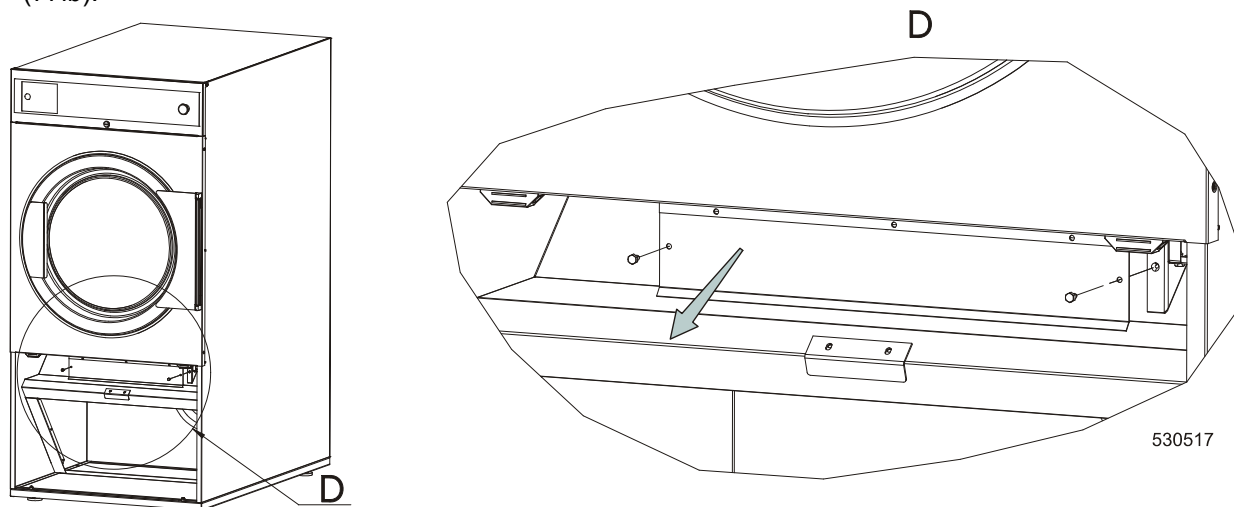

Bild. 9.4.
6. Remove the lint filter cover. Remove the cover below the drying drum, fig. 9.4. Clean the inner space with vacuum cleaner. Return the lint filter cover to its original place, not applicable for 24kg (53lb), 35kg (77lb).